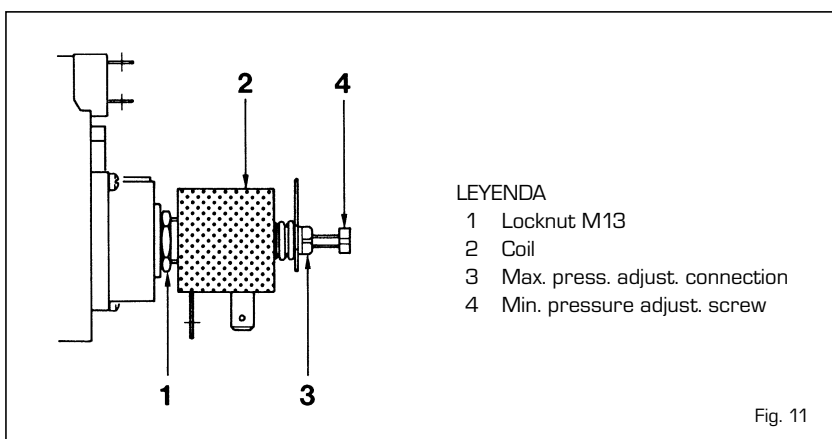

Fig. 11
To set the maximum pressure, proceed as follows (fig. 11):
To set the reduced pressure, proceed as follows (fig. 11):
- Check calibration of reduced pressure adjusting screw (4 fig. 11) of coil assembly.